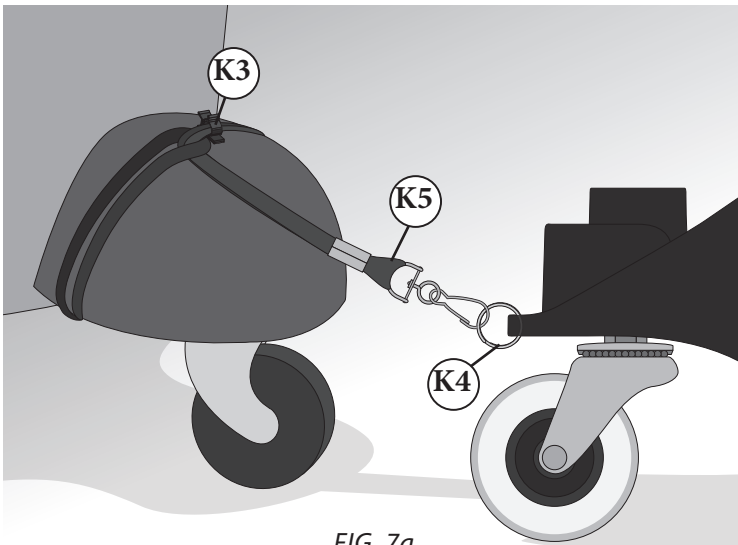

FIG. 7a
- a. Attach the Split Ring (K4) to the slot on the Caster Mount (I) and attach the Retainer Clip (K3) onto your vacuum's foot caster. Then loop the Lanyard (K5) around your vacuum's foot caster and through itself and the Retainer Clip. Finally, clip the Lanyard to the Split Ring [FIG 7a].